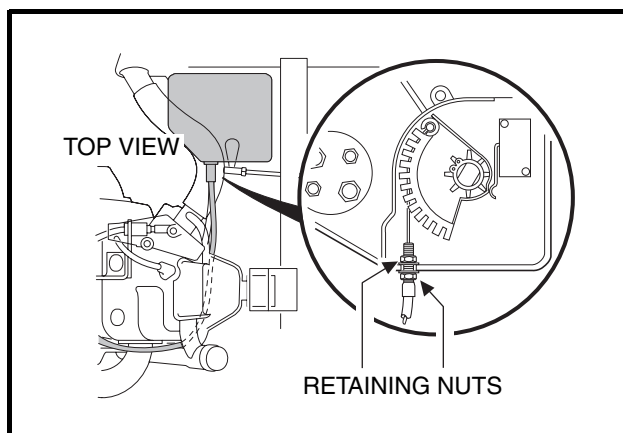

Figure 18-48 Connect Cable to Cam
25. Connect accelerator cable to actuator cam in the electrical box. Position the accelerator cable in the mounting slot in the wall of the electrical box and tighten mounting nuts to 18 in-lb (2.0 N·m) (**Figure 18-48, Page 18-17**). Install electrical box cover and tighten mounting screw.